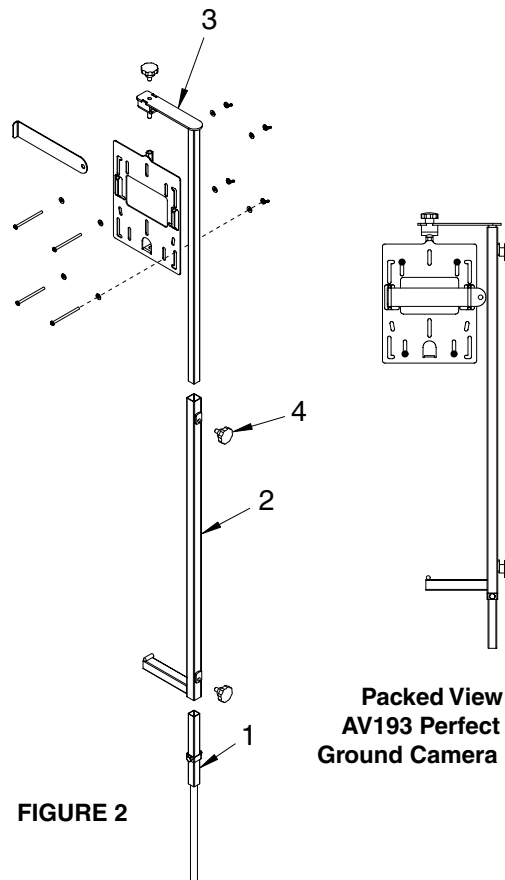

FIGURE 2
1. Insert short end of ground stake (48484) into the bottom end of ground stake riser (48485) and secure in place with provided knob bolt (48741). **SEE FIGURE 2.**
2. Insert ground stake riser extension (48487) into the top end of ground stake riser and secure in place with provided knob bolt. **SEE FIGURE 2.**